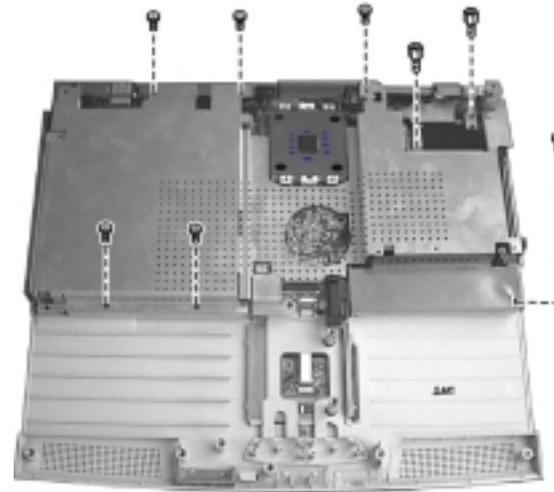

Figure 2-29
7. Remove six screws and two hexnut screws fastening the metal shield, and then lift the shield up from the system board carefully. (figure 2-29)